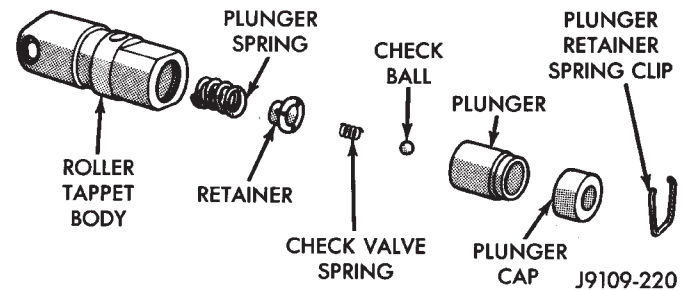

Fig. 48 Hydraulic Tappet Assembly
- (1) Pry out plunger retainer spring clip (Fig. 48).
- (2) Clean varnish deposits from inside of tappet body above plunger cap.
- (3) Invert tappet body and remove plunger cap, plunger, check valve, check valve spring, check valve retainer and plunger spring (Fig. 48). Check valve could be flat or ball.
(4) Assemble tappets (Fig. 48).